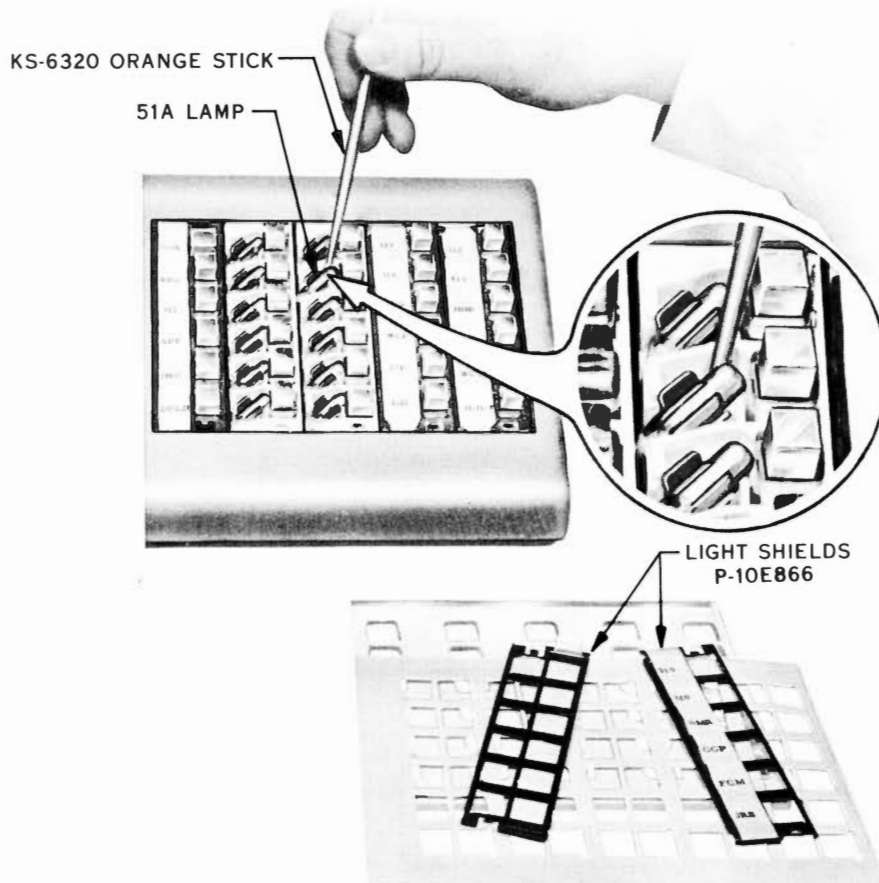

Fig. 2 — Method of Removing Lamp
- (1) Pry up gently at top of bezel to release spring catches.
- (2) Move bezel assembly toward back of set to release guides; then lift off.
3.02 To remove 51A lamp (Fig. 2):